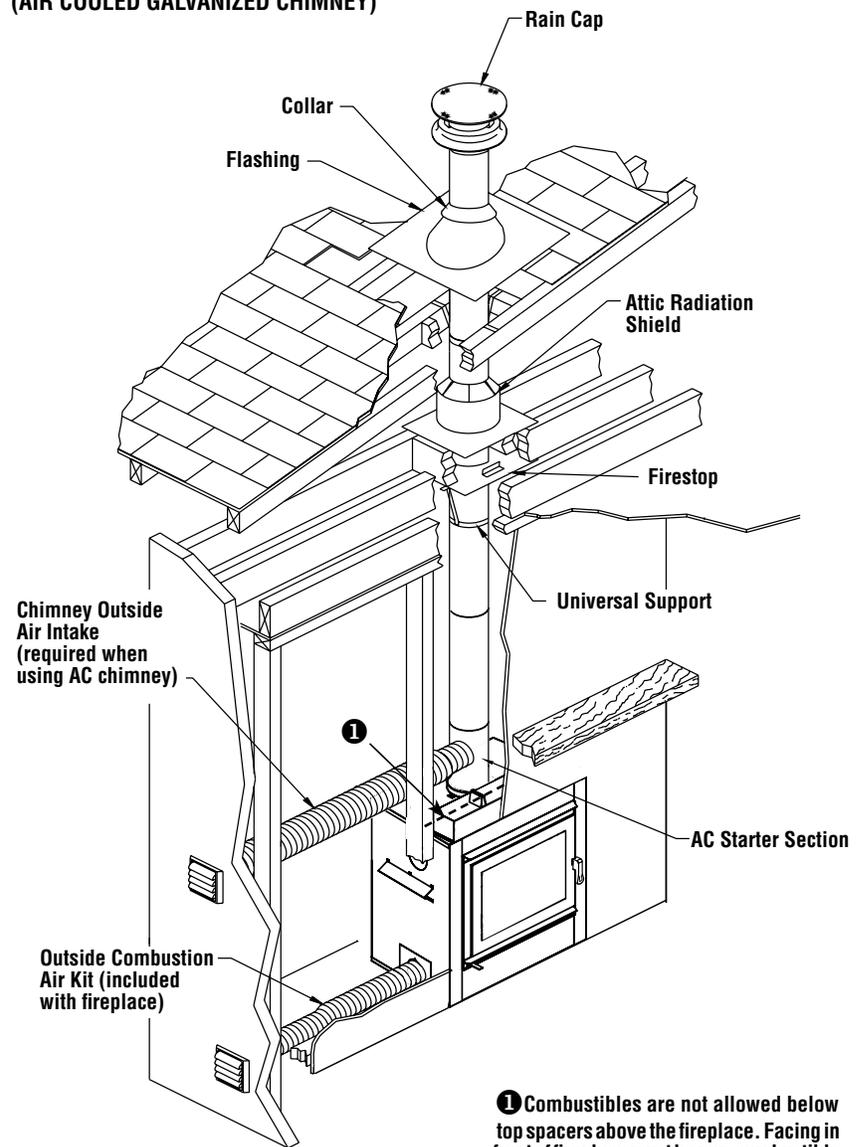

Figure 33
3. For ASHT+* / HT6103+* / DuraTech DTC* and S2100+* / HT6000+* chimneys place the first chimney length on the fireplace. Secure it to the collar with four screws equally spaced around the perimeter. With the AC chimney, you must use a starter section before installing the first chimney length (**Figure 33**). Continue installing chimney lengths making sure to lock each length in place.